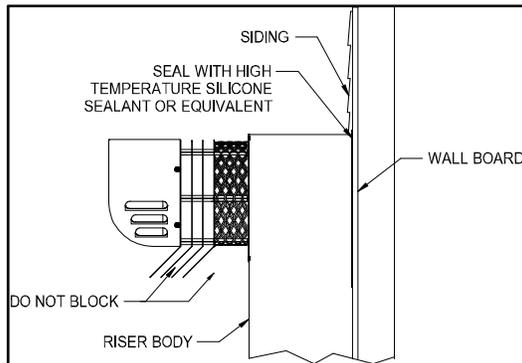

Figure 5
**WARNING: DO NOT enclose or restrict the outside power vent body.** This results in reduced cooling which can create a fire hazard! Wood or vinyl siding should be cut so that the unit mounts directly on the wallboard to provide a stable support. If the siding is greater than 1/2" thick use a spacer plate or board behind the power vent mounting plate. (See Figure 5)